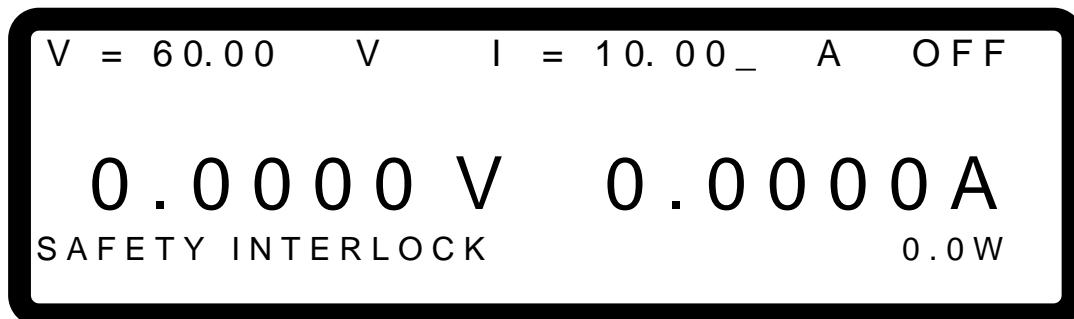

Figure 3-79
3. If a protection occurs due to a SAFETY INT.LOCK signal the MAIN PAGE will display the protection message as shown in Figure 3-79.